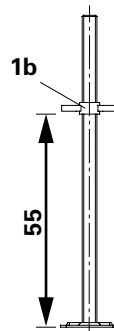

Fig. A2.03
- Base Spindle UJB 38-80/55 with yellow Quick Jack Nut (1b) = max. 55 cm. (Fig. A2.03)